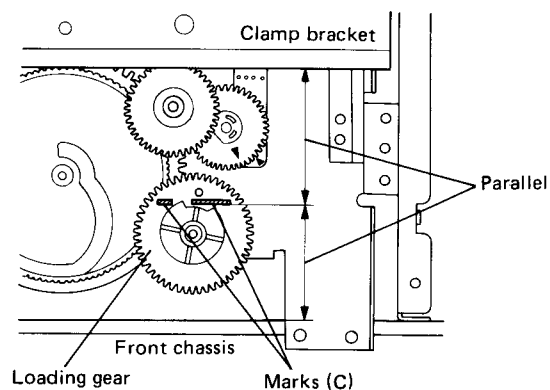

Fig. 8
4. Set the loading gear so that the marks (C) on it are in parallel with the front chassis or clamp bracket. (Fig. 8)